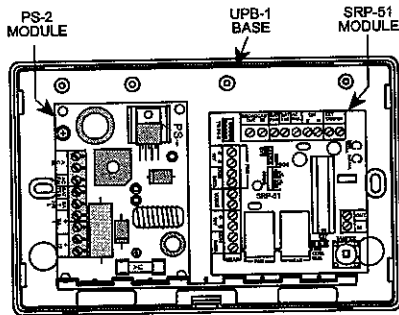

Figure 5-3.
- Power supply PS-2 (mounted within the plastic cabinet base - Fig 5-3)